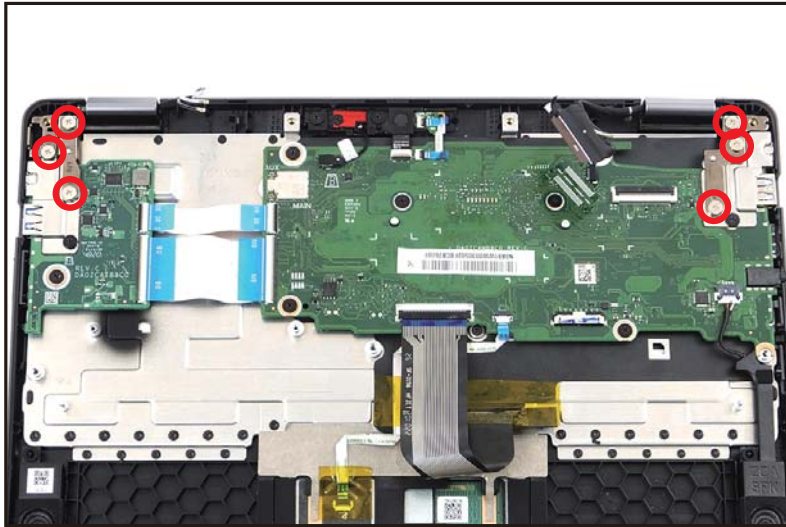

Figure 1-18. LCD Module Removal
4. Remove six (6) screws securing the LCD hinges in place (Figure 1-18).